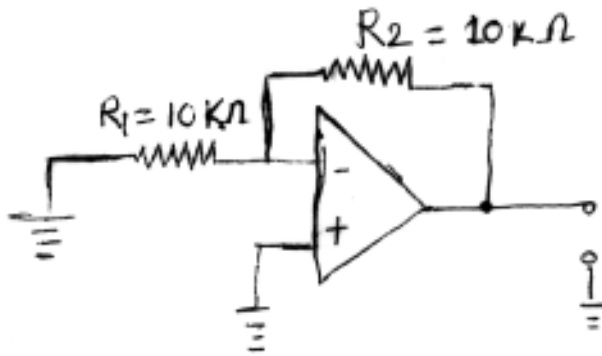

Fig. 12.(A)
12. A) The op-amp used in the inverting circuit shown in fig. 12.(A) has an input bias current of 500 nA and an input offset current that can range between  $\pm 100$  nA. Find the resulting maximum output offset voltage. 6
- B) For the n/w function as shown in fig. 12.(B), find the transfunction function